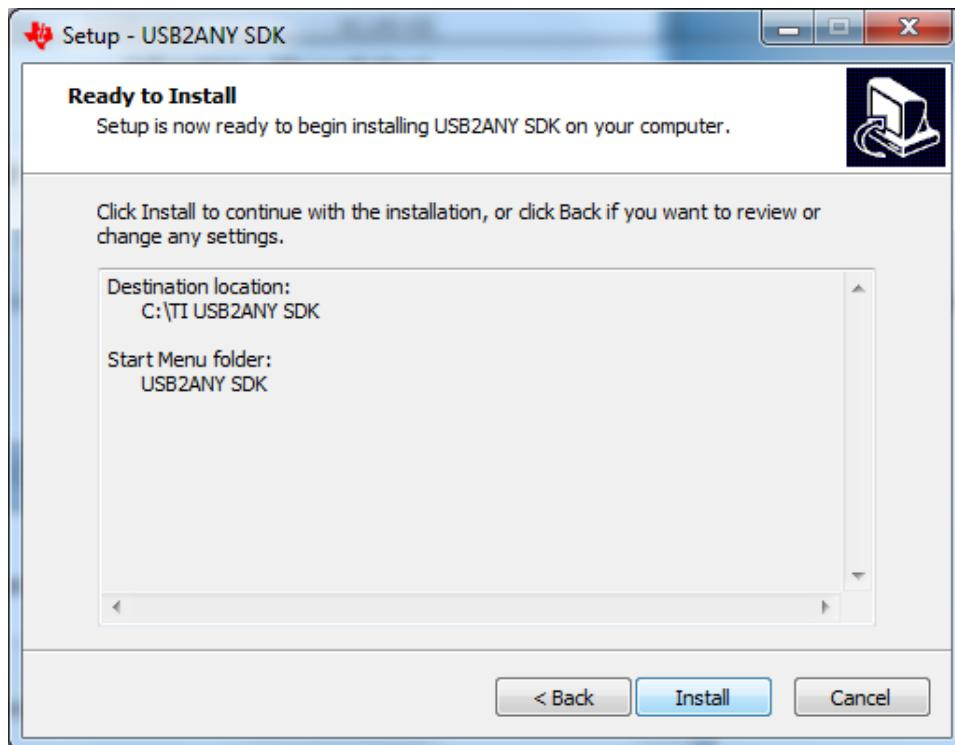

Figure 26. USB2ANY Start Installation
11. The *Ready to Install* window is displayed next as shown in Figure 26. Click the *Install* button to begin the USB2ANY installation.